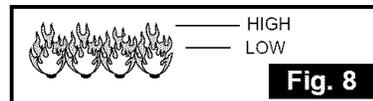

Fig. 8
- Visually check the flames every time you light your grill (Figure 8). If the flame is abnormally small or smokey yellow -- shut off the grill and check the venturi tubes for blockage (see Figure 11 on pg. 27) or refer to the Troubleshooting Guide.